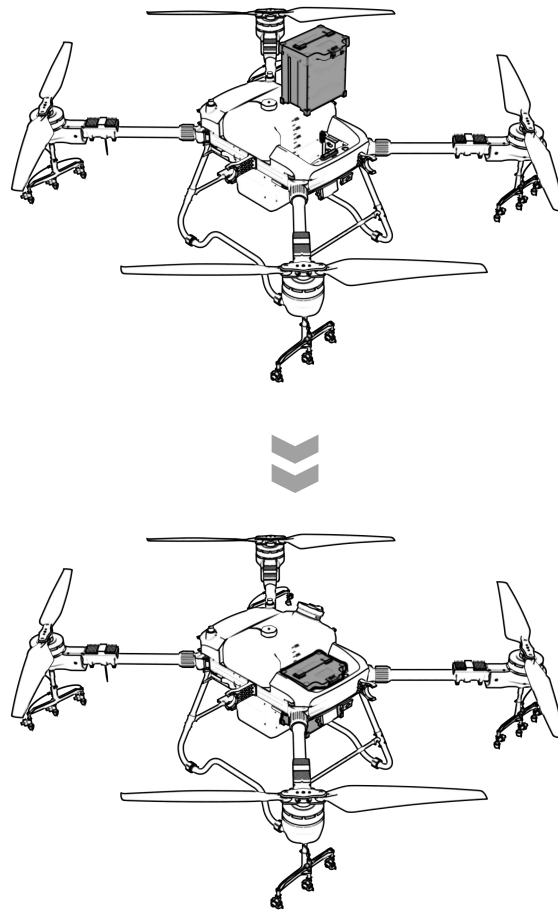

Figure 1-4-6
**Step 2:** Connect the battery output port to the body, and the battery is locked in when you hear a “click”. See Figure 1-4-6.